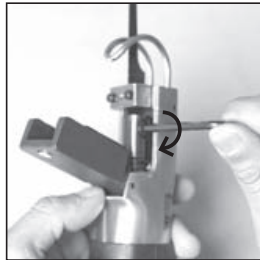

Figure 5
- (5) Tighten the two set screws to fix the blade stable with hex key provided. (See Figure 5)